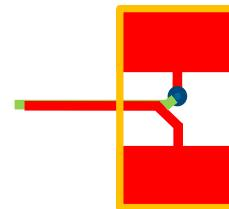

FIGURE 78. RECOMMENDED LAYOUT PATTERN FOR CURRENT SENSE TRACES REGULATOR
12. The current sensing traces must be laid out very carefully because they carry tiny signals with only tens of mV. For the current sensing traces close to the power sense resistor ( $R_{\text{SEN}x}$ ), the layout pattern shown in Figure 78 is recommended. Assuming the  $R_{\text{SEN}x}$  is placed in the top layer (red), route one current sense connection from the middle of one  $R_{\text{SEN}x}$  pad in the top layer under the resistor (red trace). For the other current-sensing trace, from the middle of the other pad on  $R_{\text{SEN}x}$  in top layer, after a short distance, via down to the second layer and route this trace right under the top layer current sense trace.